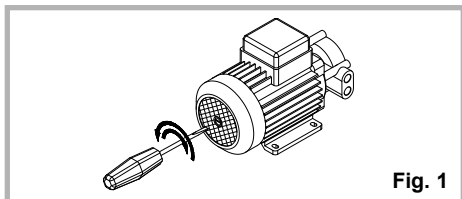

Fig. 1
**POMPE SUPPLÉMENTAIRE (Option) (Fig. 1):**